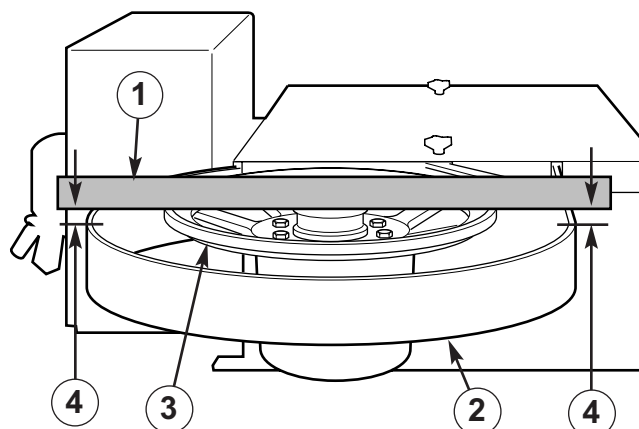

Figure 34 — Level impeller drive assembly. (1) Straight Edge, (2) Band, (3) Cutting Head Support, (4) Measure
3. **Level impeller drive assembly.** Place straight edge across top of cutting head support and equalize distance on both sides from straight edge to band on frame (Figure 34). Tighten impeller drive assembly to support plate.